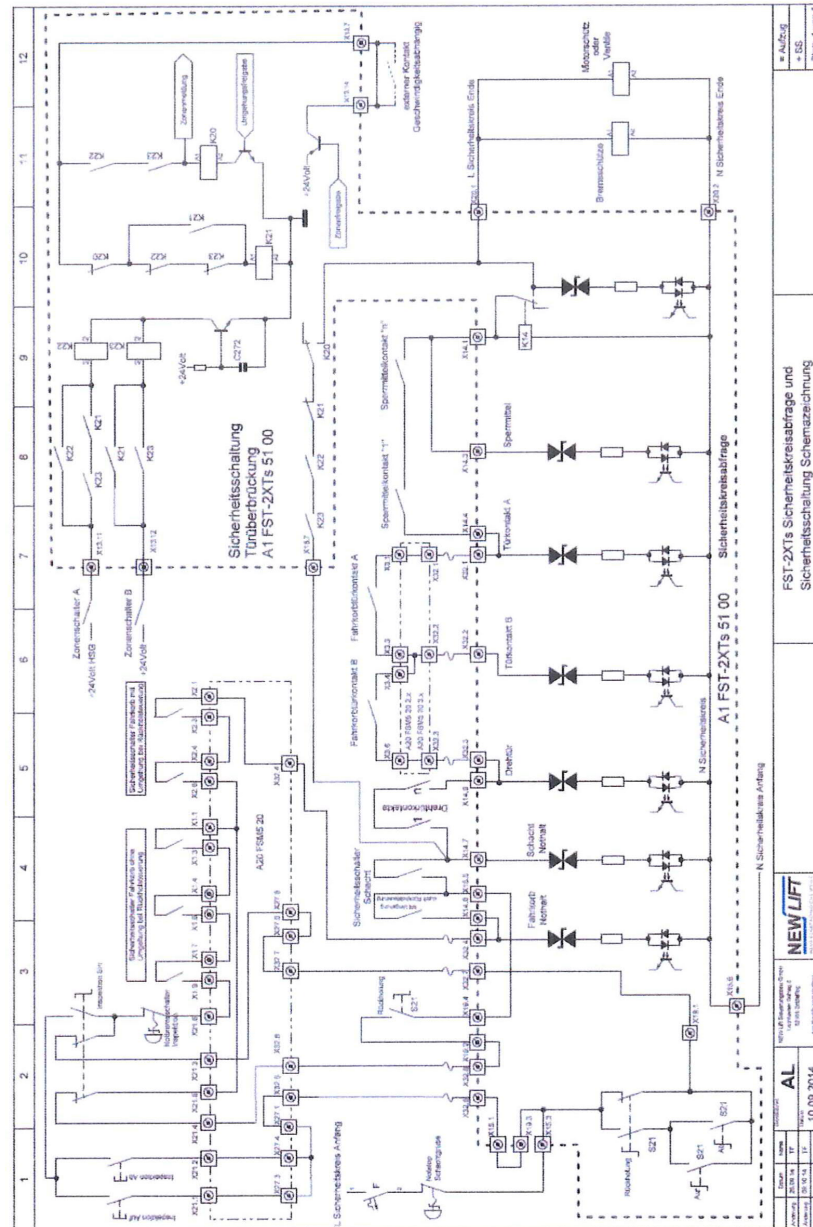

Figure 2: Wiring diagram of the safety circuit scan control and safety circuit bypass control
safety circuit bypass control (figure 2).
- 2.5 The wiring must be implemented according to "FST-2XTs safety circuit scan control and safety circuit bypass control schematic drawing" figure 2 (e.g., N-wire at X15.6, return wire of the contactors and valves at X20.2; X14.1 not connected to X15.7).